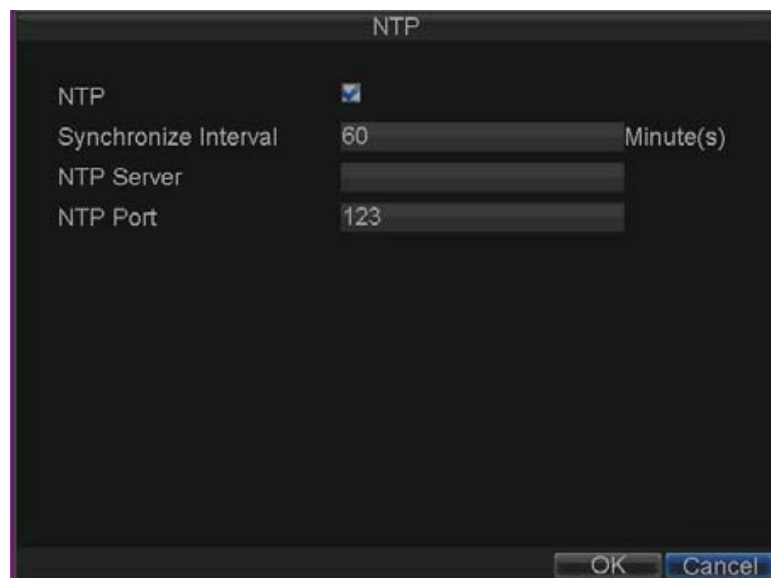

Figure 10.8. NTP Settings Menu
- 3) Click the *Set* button next to **NTP** to enter the NTP Settings menu, as shown in Figure 10.8.